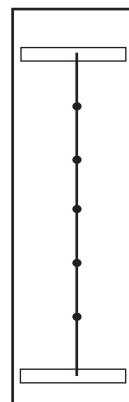

Fig. 1
1. Tie five knots, equally spaced, for climbing grips. **(Fig. 1)**